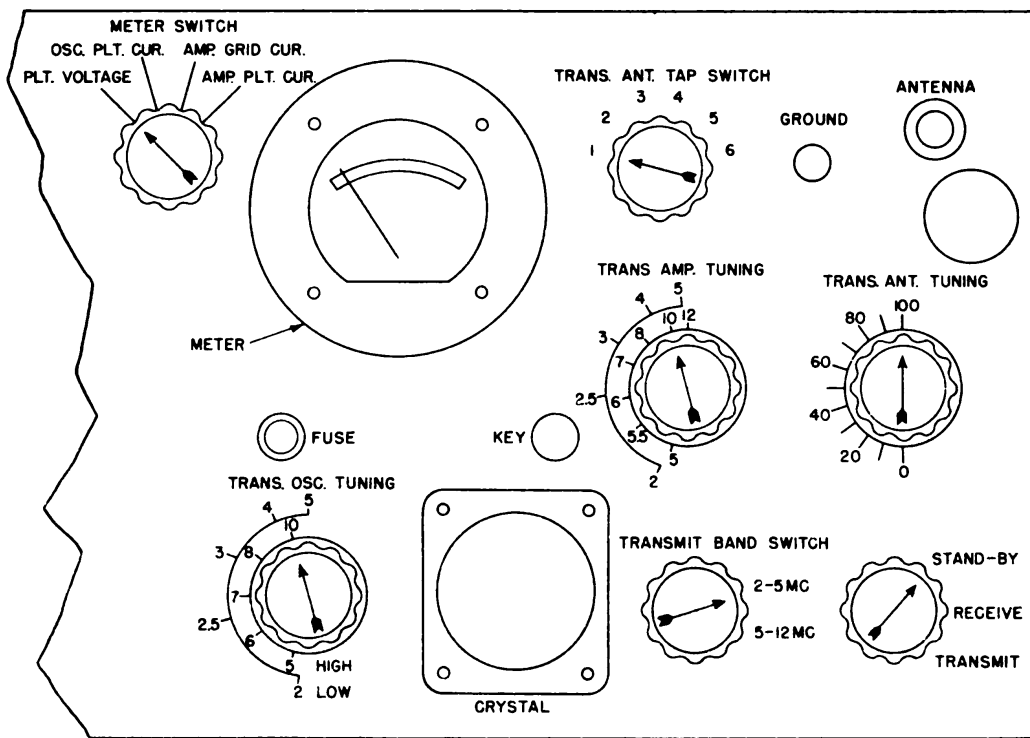

Figure 17. Transmitter section, identification of controls.
18. TRANSMITTER SECTION (fig. 17).